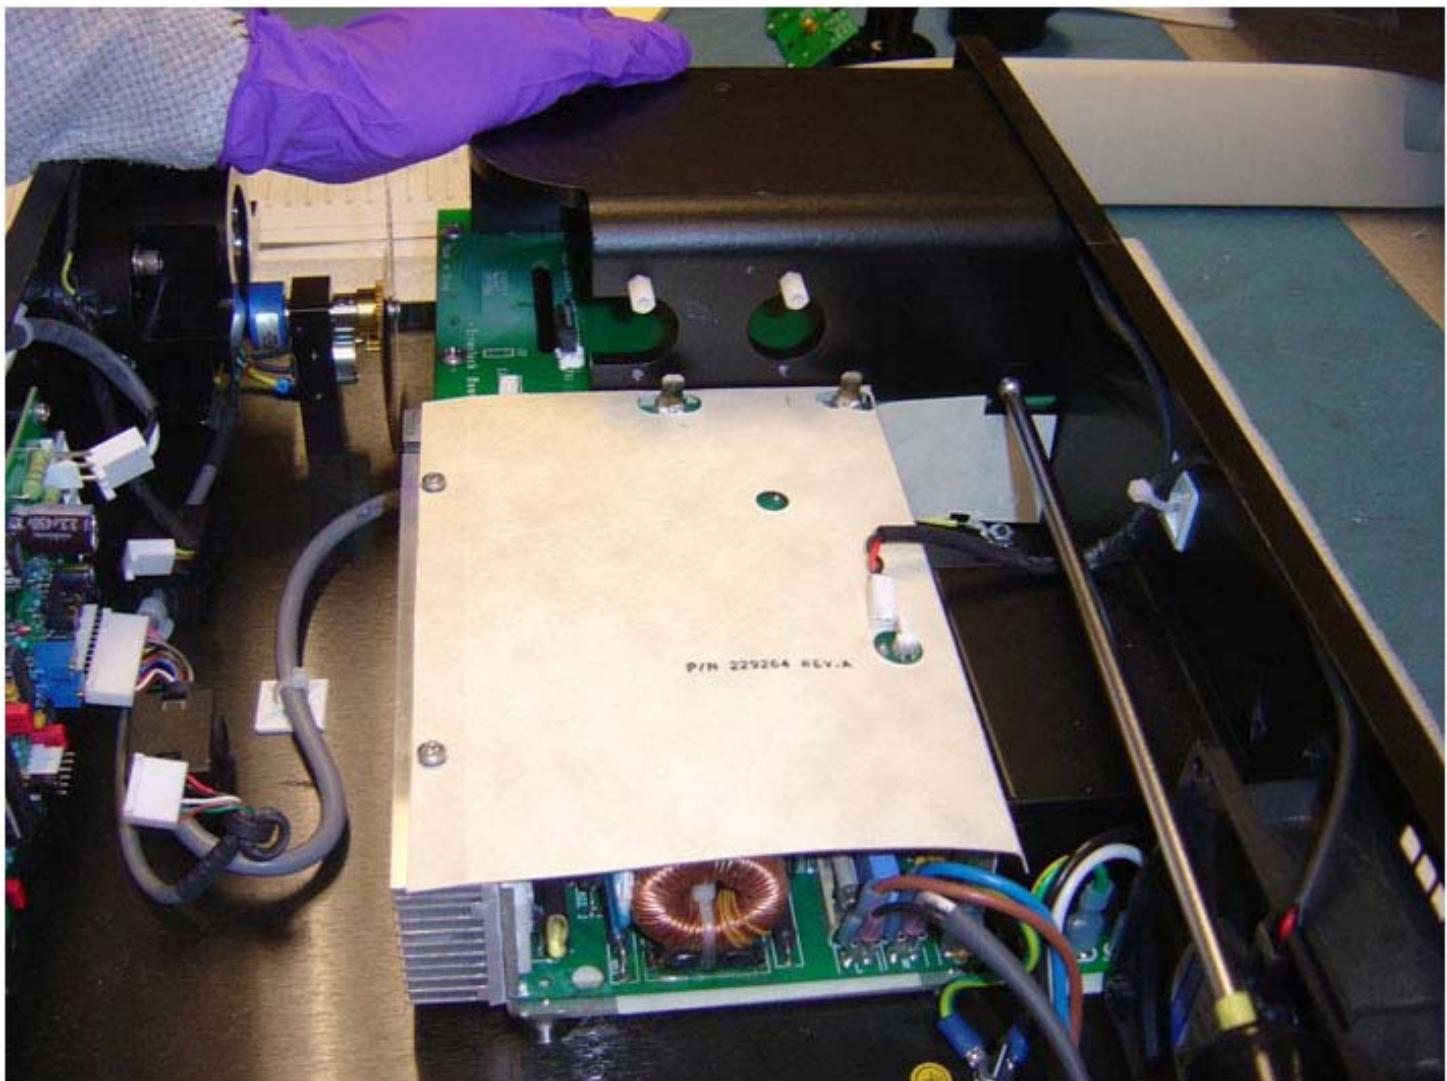

Figure 21
5. Remove the four 6-32 screws on the interlock board assembly – Figs. 21 & 22.